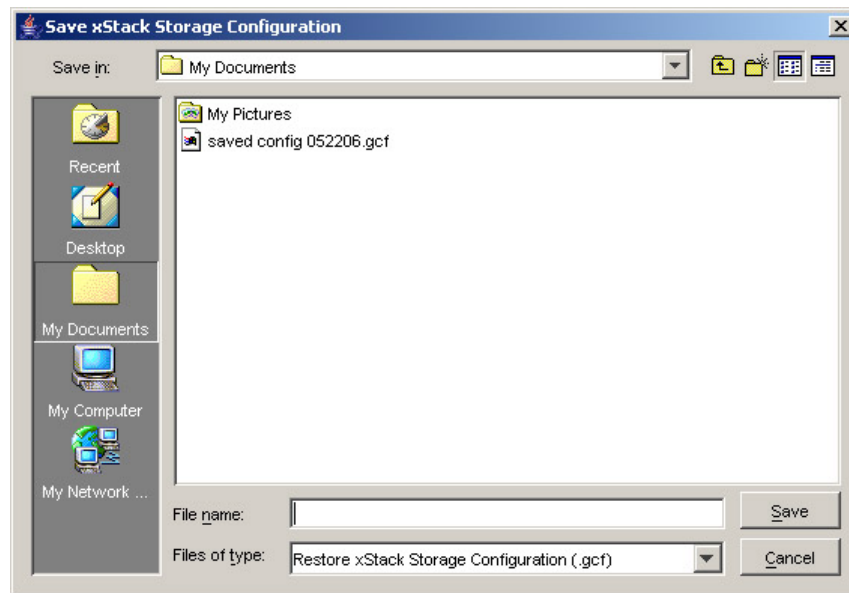

Figure 5-51. Save XStack Storage Dialog Box
1. On the **File** menu, click **Save XStack Storage Configuration**. The Save XStack Storage Configuration dialog box appears (see Figure 5-51).